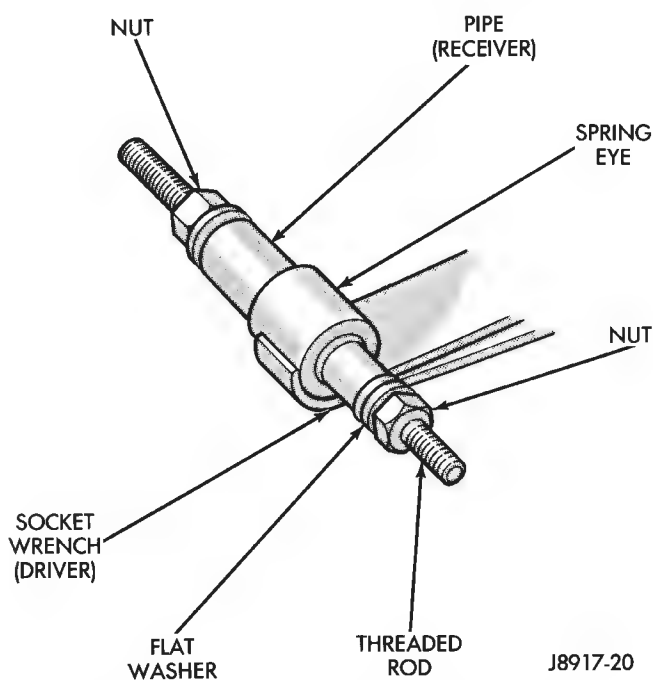

Fig. 4 Spring Eye Bushing Removal
(1) Assemble tools shown (Fig. 4). Tighten the nut located at the socket wrench end of the threaded rod until the bushing is forced out.
(2) Assemble and align the bushing installation tools.
(3) Align the bushing with the spring eye and tighten the nut located at the socket wrench end of the threaded rod. Tighten until the bushing is forced into the spring eye.